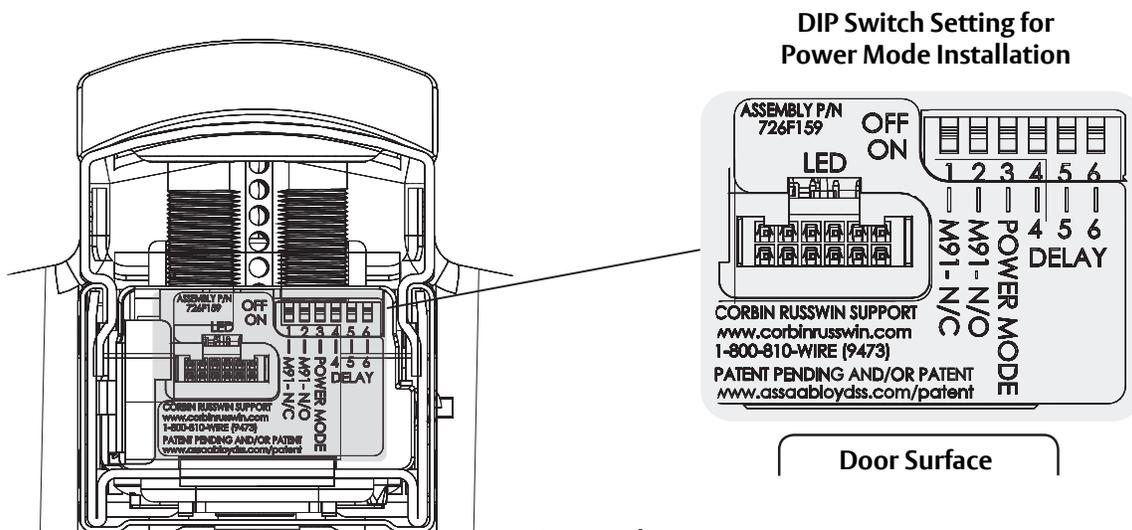

Figure 16b
2. Ensure 'Power Mode' is set to ON (Figure 16b).